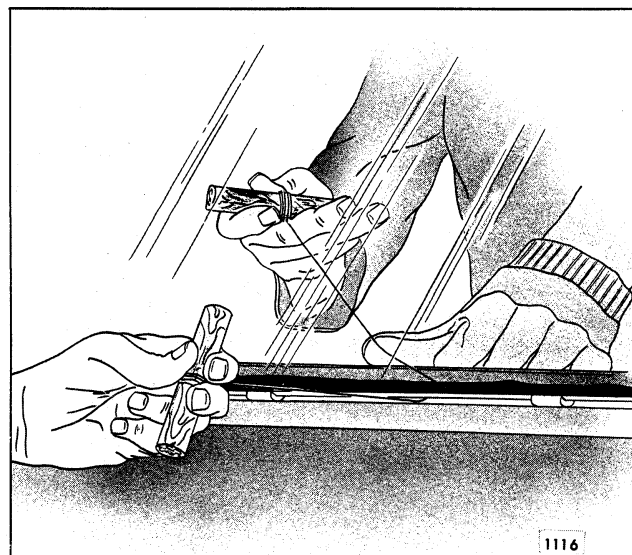

Fig. 11-4-Cutting Adhesive Material
pliers, insert other end of wire through adhesive material at edge of glass; then secure that end of wire to another wood handle (Fig. 11-4).
8. With aid of helper, carefully cut (pull wire) through adhesive material around entire perimeter of window. If "short method" will be used to install new glass, hold wire or cutting tool close to inside plane of glass to prevent cutting an excessive amount of adhesive material from window opening. Keep tension on wire throughout cutting operation to prevent wire from kinking and breaking (Fig. 11-4).